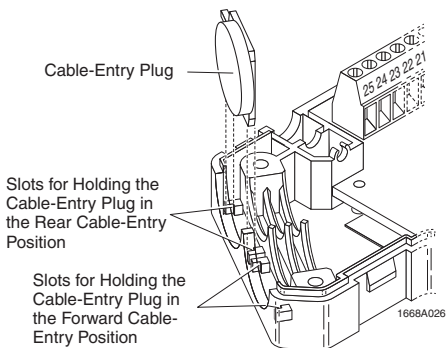

Figure 10. Installing the EMI Cable-Entry Housing Plug
6. Obtain the cable-entry plug previously removed from housing-half "A". Then carefully install the plug (see Figure 10).